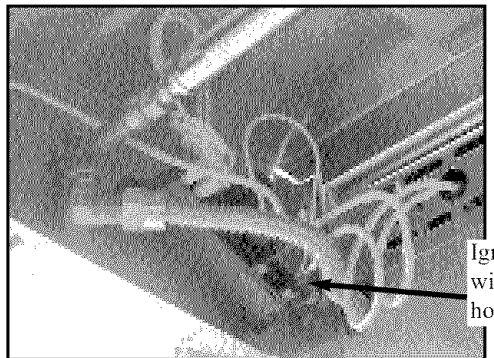

Fig. 8
3. Attach the ignitor wires coming out from the side of the grill to ignitor terminals. (See Fig. 8)